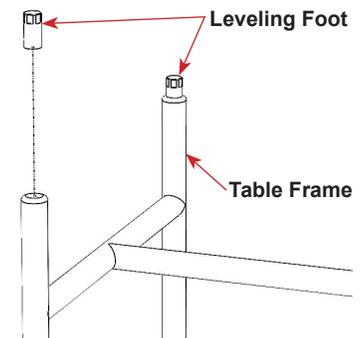

FIGURE 2.2 - Leveling Foot
**STEP 2:** To remove or install the leveling feet; turn the threaded foot. See Figure 2.2